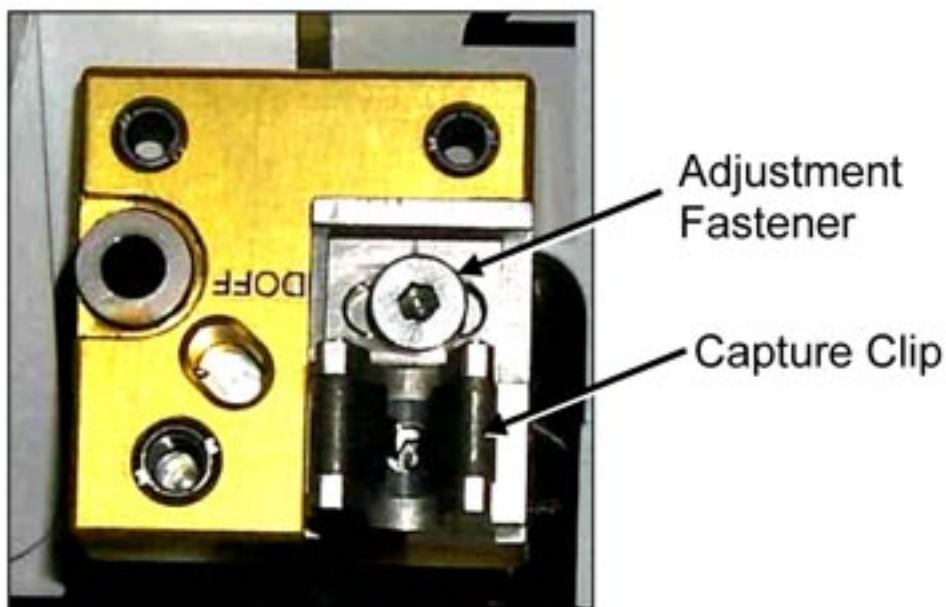

Figure 10. K-BAR Capture Mechanism, Installed on Standoff.
- 7.4 Engage Rack K-BAR Thumb Latches (two) into Capture Mechanism located on LAB Standoff. Refer to Figure 10.
*      |      Refer to Figure 10.